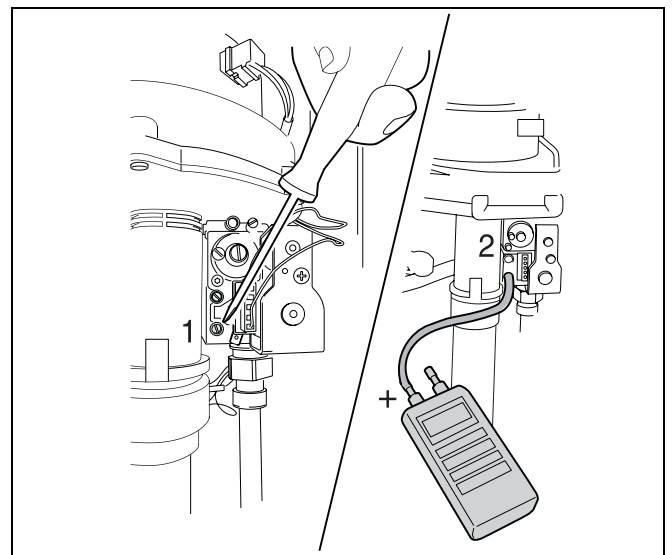

fig. 52 Measuring the gas-supply pressure
- Attach a tube from the pressure gauge to the gas test nipple (the lower one, see fig. 52, item 2).